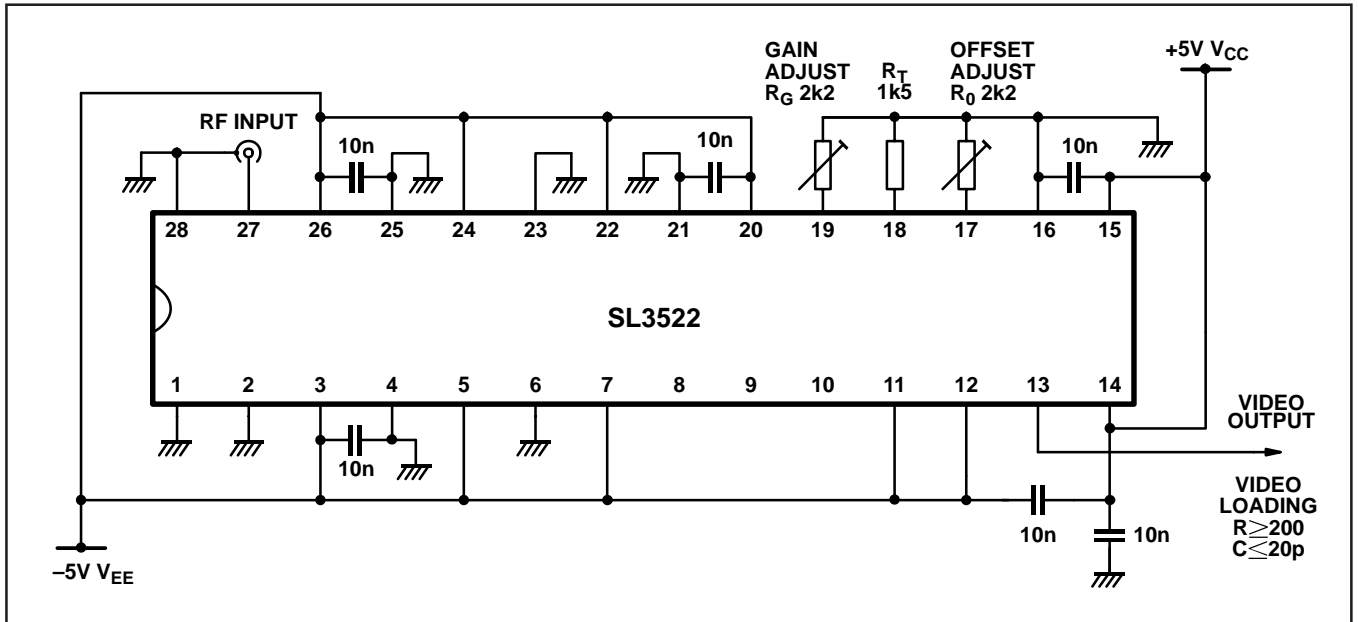
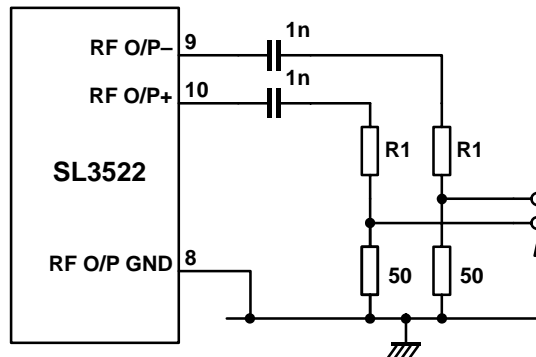

Fig.5 Application circuit successive detection logarithmic function only
Fig.9 Network for attenuating limited RF output
a) Gain and Offset trimming (ref Applications circuits in figs 5 and 6)
If the SL3522 is to be used as a Logarithmic successive detection amplifier only, with no requirement for a limited RF Output, the RF input (pins 27 and 28) can be driven EITHER differentially or single ended from a 50 Ω source. If being used with a single ended input, the SIGNAL should be applied to pin 27 and the RETURN should be connected to pin 28, as shown in the Application circuit diagram in Fig 5.
If required the limited RF Output can be attenuated using an attenuation network as shown in fig. 9. Under these conditions the effective RF Output currents will be reduced, allowing the device to operate with a greater margin of stability. It may be possible to run the device without a BALUN transformer on the RF input if the total output impedance on the RF Output \gg 50 Ω , and the attenuation components are mounted as close as possible to the RF Output connections (pins 9 and 10). The RF input connection could then be configured as in Fig 5.